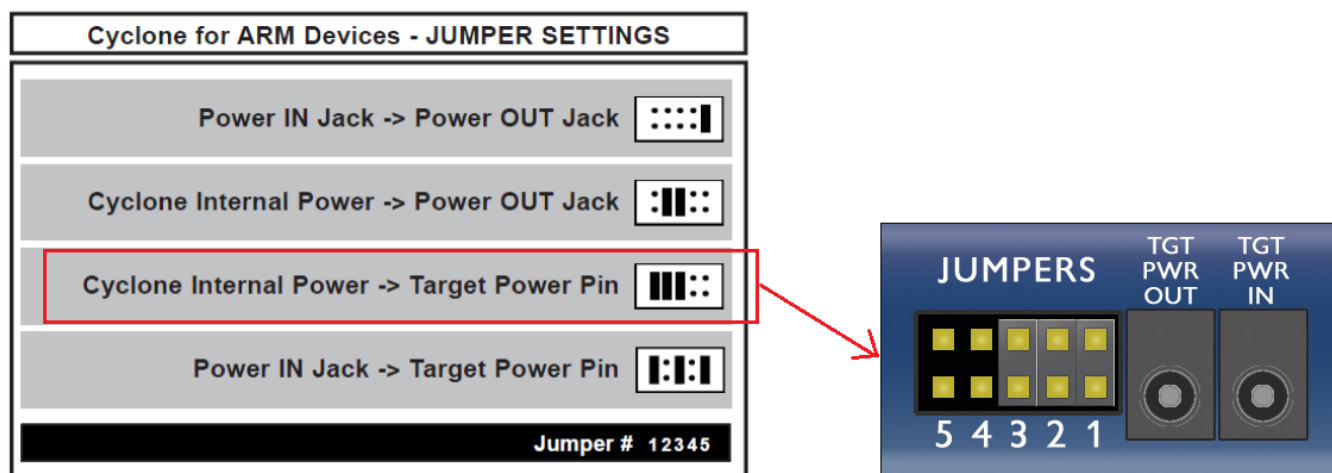

Figure 18. Jumper Setting for Host Side Power – Cyclone for ARM® Devices
- Follow jumper setting as shown in Figure 18.